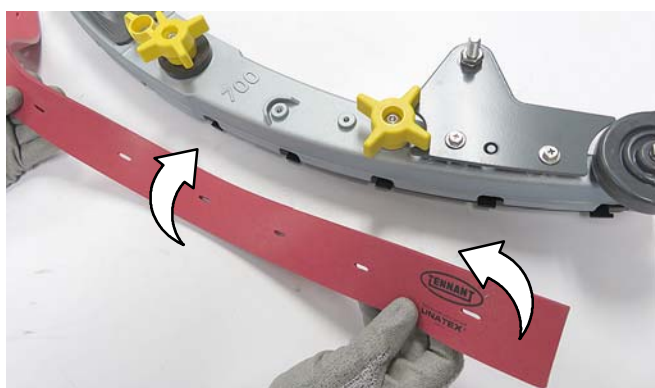

FIG. 139
4. Rotate the rear blade to a new wiping edge and reinstall blade (Figure 139). Make sure to align the slots in the blade with retainer tabs.